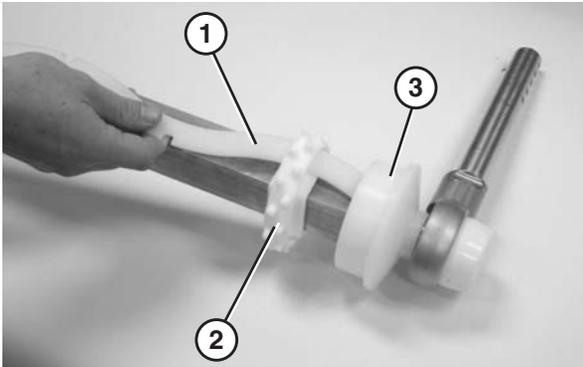

Figure 79
3. Insert the sprocket alignment bar (**Figure 79, item 1**) into the first sprocket (**Figure 79, item 2**) resting it up against the flanged puck (**Figure 79, item 3**). Position the first sprocket with the notch in the sprocket alignment bar.